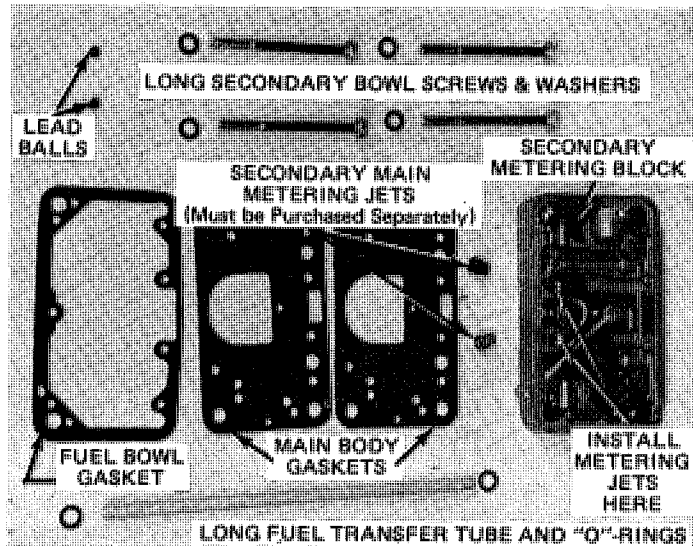

Fig. 1
**NOTE:** It will be necessary to purchase a set of two main metering jets and install them into the secondary metering block before the carburetor is reassembled. See Figure 1.